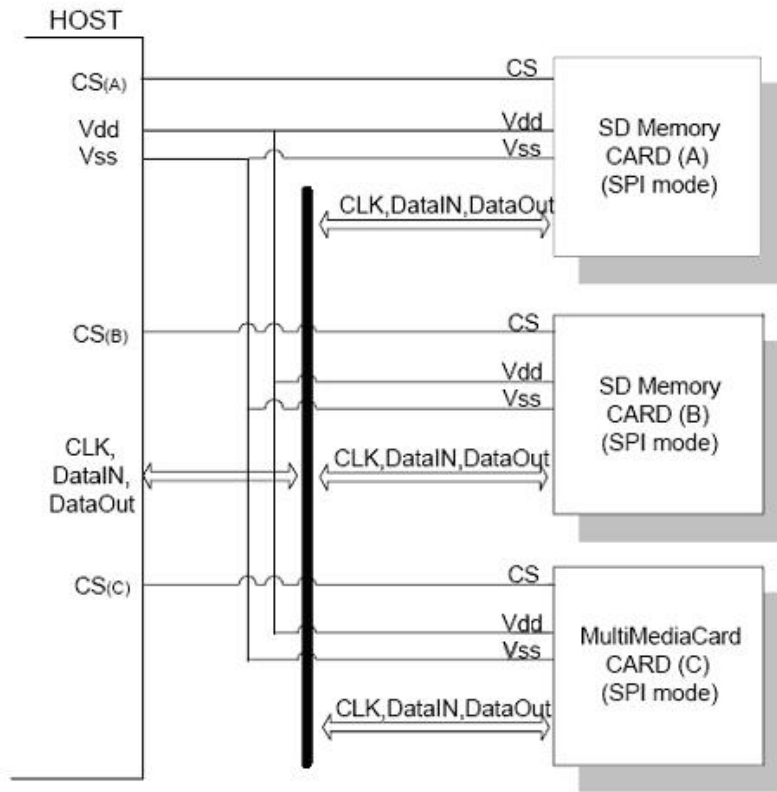

Figure 7-1: mciroSD Card system (SPI mode) bus topology
The card identification and addressing methods are replaced by a hardware Chip Select (CS) signal. There are no broadcast commands. For every command, a card (slave) is selected by asserting (active low) the CS signal (see Figure 7-1).